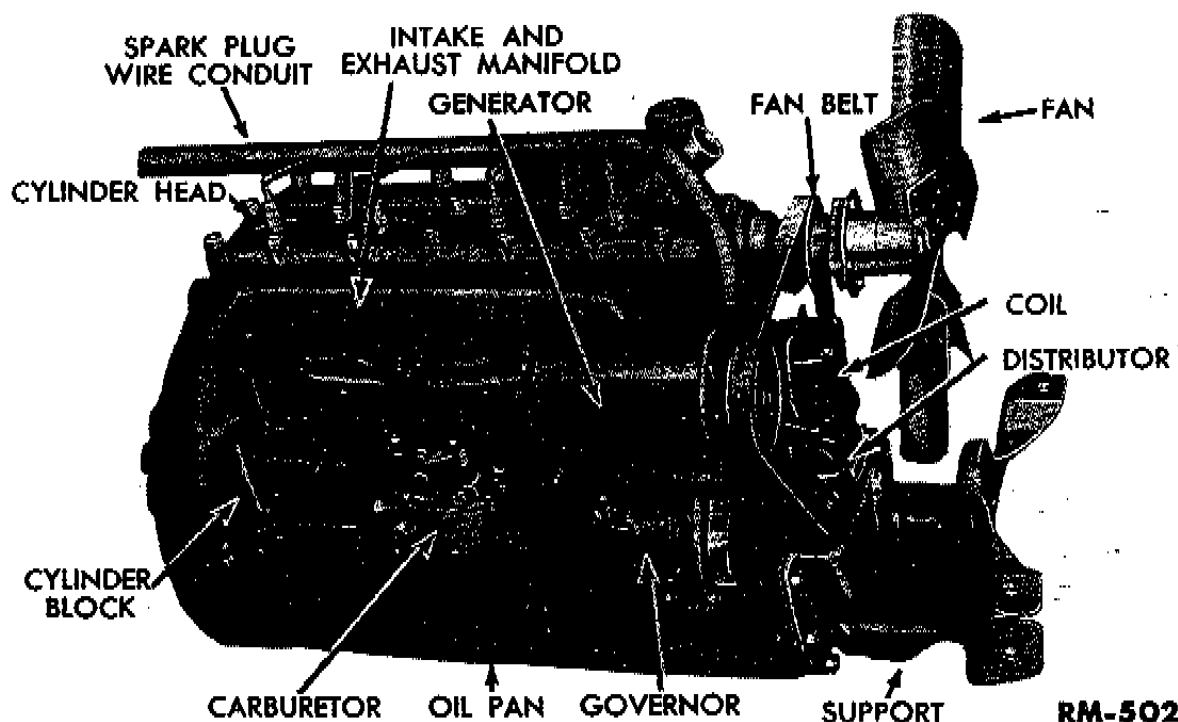

Fig. 2—Right 3/4 Front View of Engine
a. Remove Generator. Remove the nuts that secure the generator adjustment bracket to the timing gear side cover and generator. Disconnect the generator wiring. Remove the bolt and washer that secure the generator to the cylinder front cover, and remove the generator (fig. 2).
d. **Remove Carburetor.** Remove the two nuts and lock washers that secure the carburetor to the intake manifold. Remove the carburetor (fig. 2).
a. **Remove Intake and Exhaust Manifolds.** Remove the nuts and washers that secure the intake and exhaust manifolds to the cylinder block. Lift the manifolds off the cylinder block as an assembly (fig. 2).